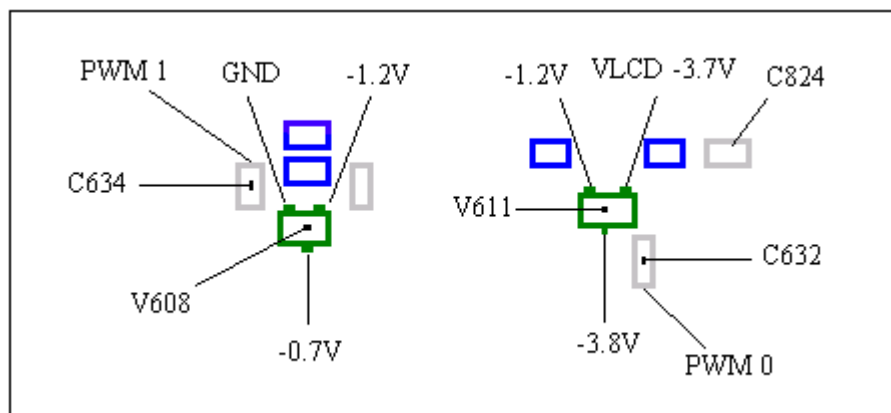
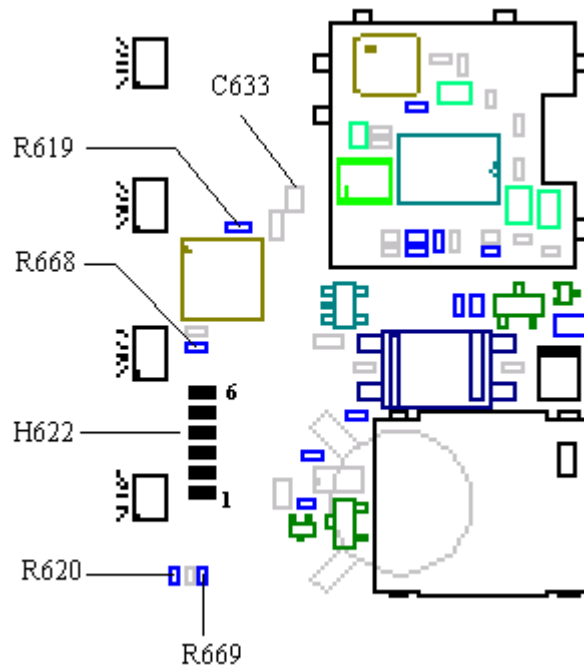

Fig. 5.2
Fig. 5.5
Measure the voltages at V608 (class A) and V611 (class A). The GH 688 uses displays of two different brands, Philips and Seiko. Fig. 5.2 and 5.3 shows typical voltage values for both brands.
If one or more of the voltages are incorrect, measure the resistance of C633 (class A, >100 kohms, fig. 5.5) and C824 (class A, >25 kohms, fig. 5.2 and 5.3).
* If they are correct, replace C634 and C632 (class A, fig. 5.2 and 5.3)
- Make sure that there VLCD (~3.7V) voltage at H622 pad 5 (fig. 5.5).
- Make sure that there VLCD (~2.8V) voltage at H622 pad 5 (fig. 5.5).
Measure the voltages at the display pads H622 (fig. 5.5):